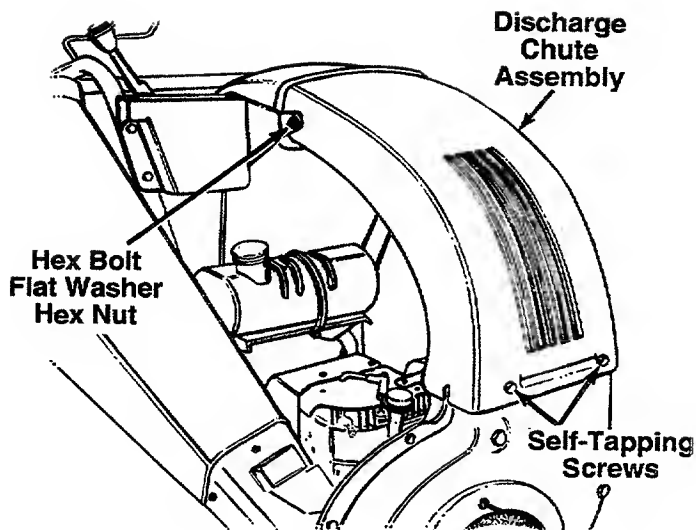

FIGURE 18.
- Remove the four self-tapping screws from the bottom of the discharge chute, and the hex bolt, flat washer and hex nut from the top. (Be careful not to drop the hardware into the chute.) Remove the discharge chute assembly. See figure 18.